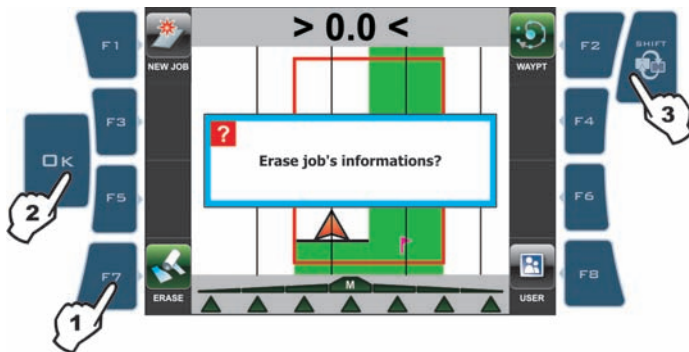

Fig. 287
- 1 Press **F7** to delete data. Erase job's information? (Fig. 287).